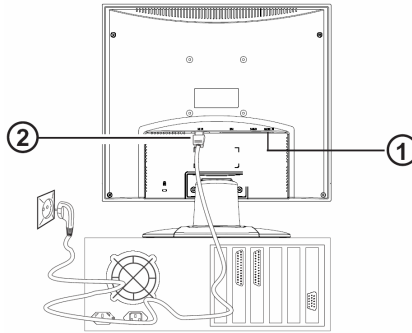

Figure 3.Connecting the monitor to the power source
If your computer is equipped with an audio output port, connect one end of the sound cable to the audio Input connector of the monitor (① in fig. 3) and the other end to the Line-Out connector of the computer.
Connect the separate power cable (② in fig. 3) to the Monitor and a grounded outlet.